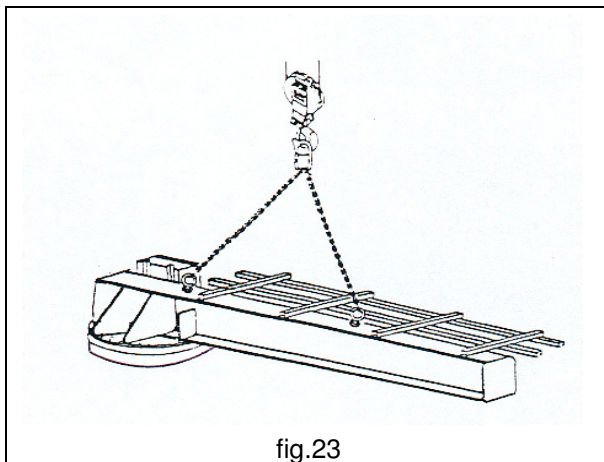

fig.23
3. Sling the arm corresponding to the handling points shown on the (fig.23), and lift it with suitable means (overhead travelling crane, travelling crane, etc).Keep the girder horizontal to the round. Take care to avoid damages to the electric box, the electric equipment (channels, cables, etc) and the rotating geared motor fixed before on the arm.